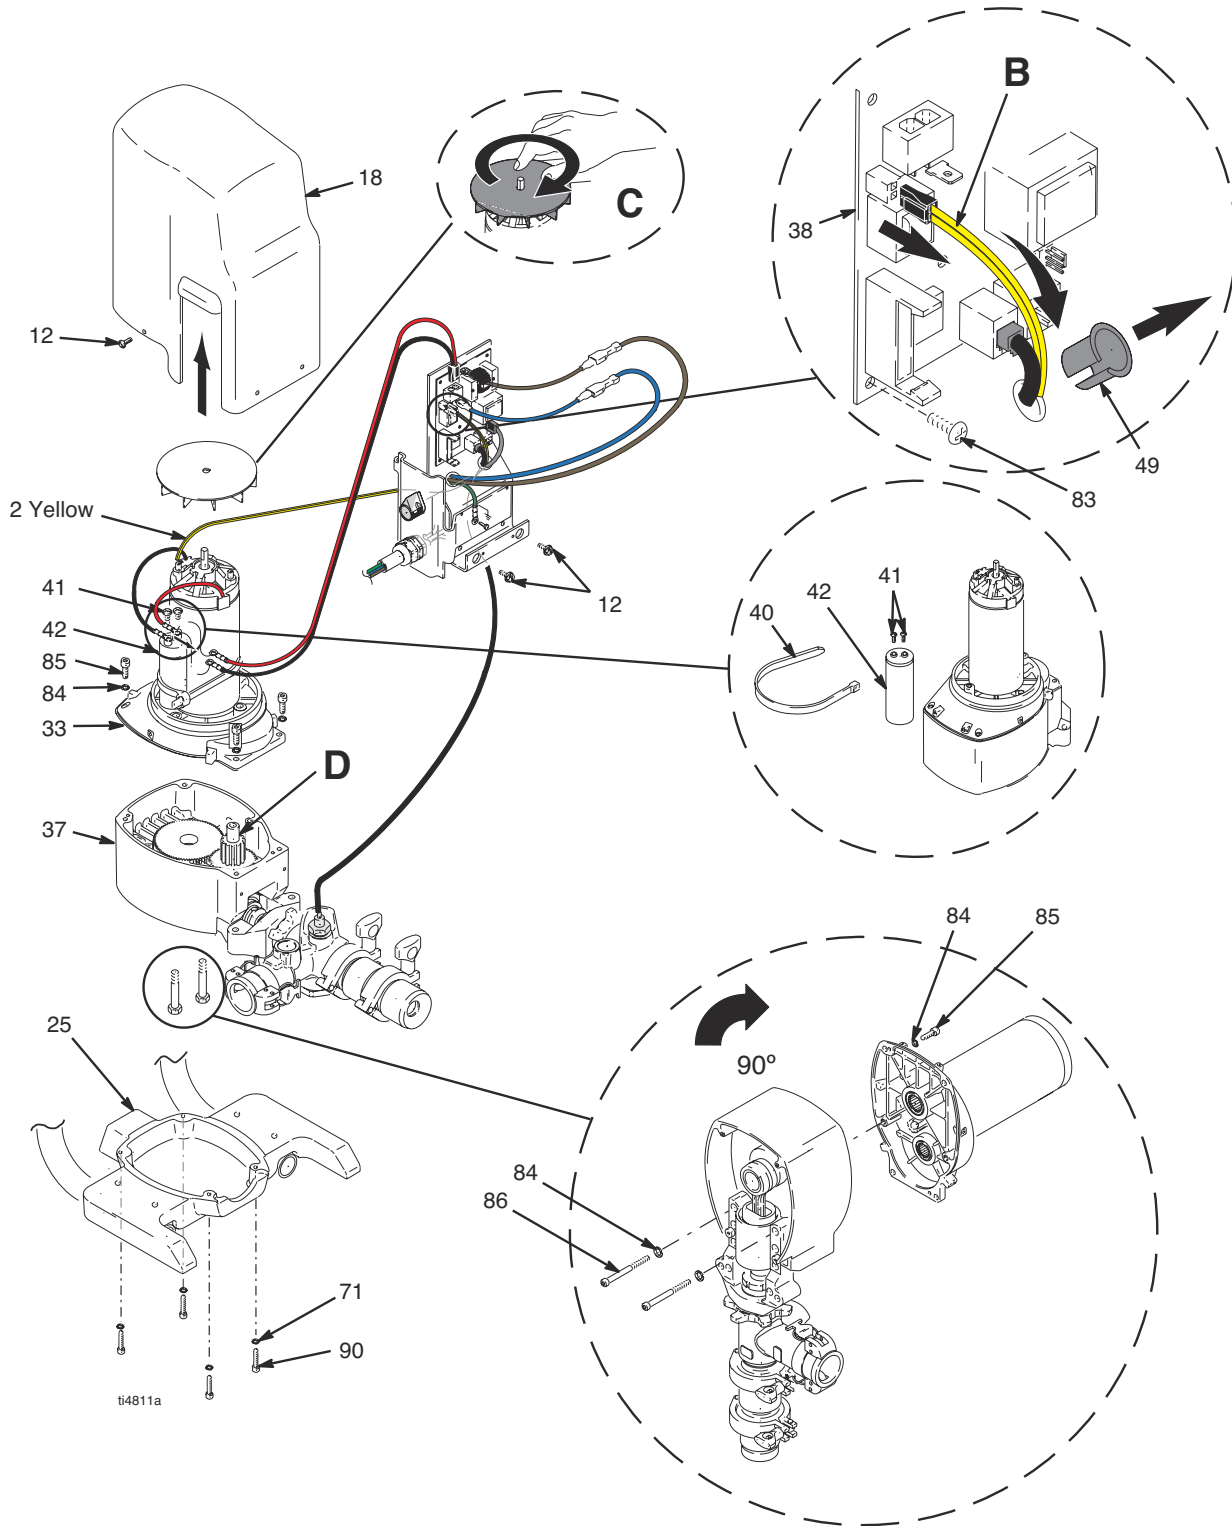

FIG. 6
3. Fig. 6. Remove six screws (12) and motor cover (18).
4. Remove two screws (41) and disconnect leads from capacitor (42) to control board (38).
5. Disconnect two yellow leads (B) from control board (38).
6. Pull strain relief (49) out of bracket and thread yellow leads connector through bracket.
7. Remove four screws (90) and washers (71) from gear housing base (25), Parts Drawing, page 26.
8. Tip motor and drive housing assembly back and remove two screws (86) and washers (84).
1. Fig. 6. Place new motor (33) on drive housing (37). Rotate fan (C). When gears are felt to mesh, install four washers (84) and screws (85).
2. Tip motor and drive housing assembly back and install two washers (84) and screws (86).
3. Install motor and drive housing to gear housing base (25) with four screws (90) and washers (71).
4. Thread yellow lead (B) through strain relief (49) and connect to control board (38). Install strain relief in bracket.
5. Connect red brush lead (+) and black brush lead (-) according to markings on the motor and capacitor. Install brush lead ends and wire harness (155) lead ends to capacitor with screw (41). See Wiring Diagram, page 29 to verify polarity is correct.
6. Install motor cover (18) with five screws (12).
2. Fig. 6. Install motor control board (38) with six screws (83).
3. Connect to motor control board (38):
- Two leads (F) from motor thermal switch.
- Lead (E) from transducer.
- Lead (D) from potentiometer.
5. Install motor cover (18) with five screws (12).